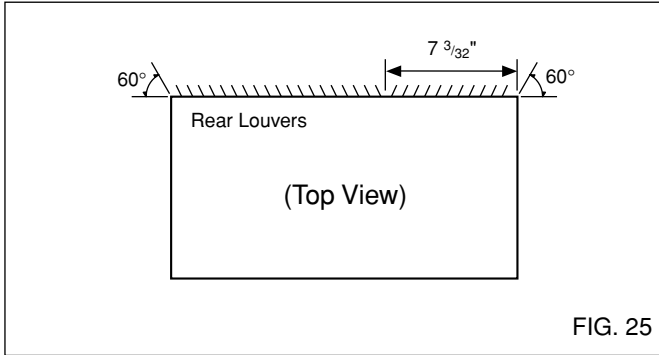

FIG. 25
- 1** Redirect the louvers at the back of the wall sleeve to 60° angle as shown in the FIG 25. The use of pliers is recommended.